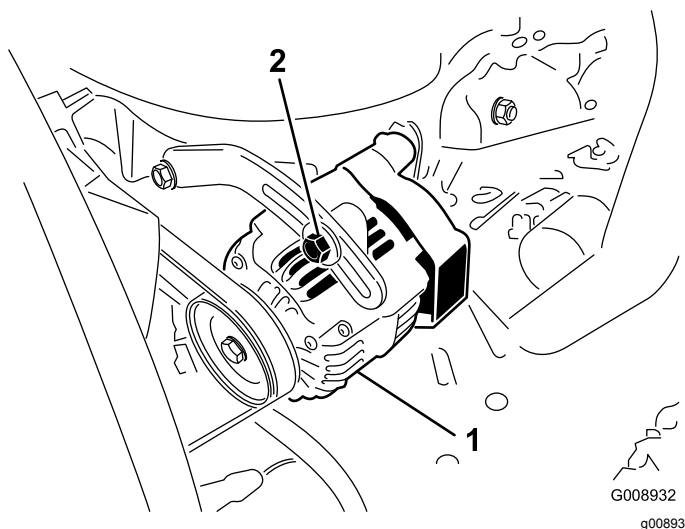

Figure 53
Check the condition and tension of the belts (Figure 53) after every 100 operating hours.
2. If the deflection is not 3/8 in. (10 mm), loosen the alternator mounting bolts (Figure 53). Increase or decrease the alternator belt tension and tighten the bolts. Check the deflection of the belt again to ensure that the tension is correct.